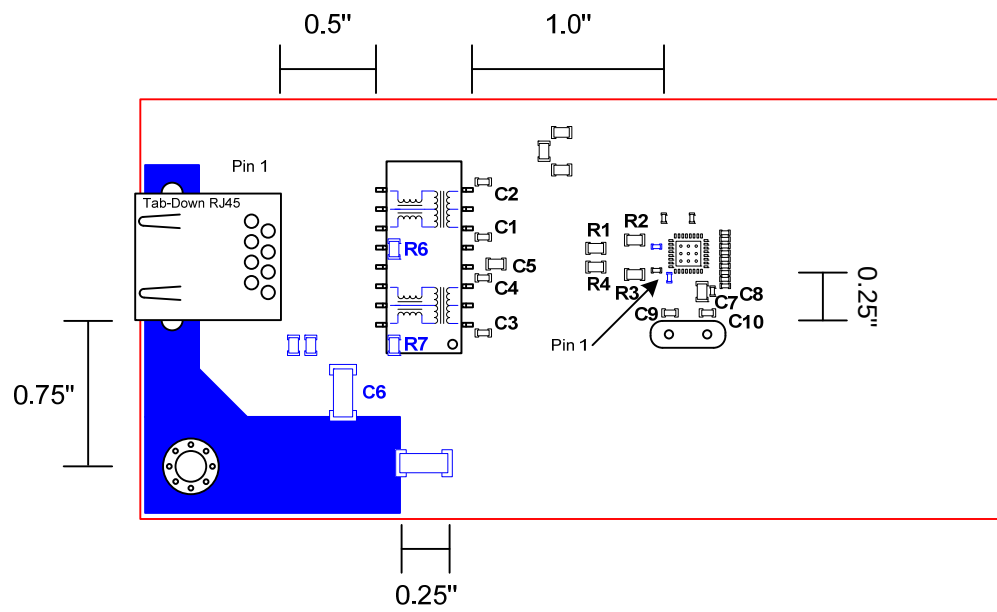

Figure No. 2
3. See Figure No. 2 below for minimum distance requirements related to the RJ45 connector, the magnetics and the LAN8710I Phy.
2. See Figure No. 2 for distance requirements related to the LAN8710I Phy. The crystal and associated components should be located within 0.25" of the LAN8710I.